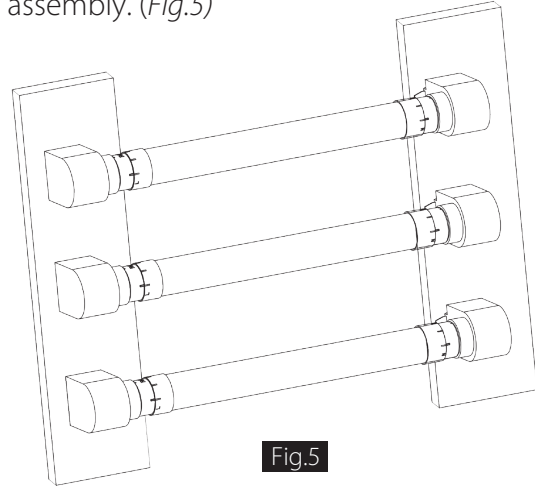

Fig.5
13. Reinstall diffuser (if applicable) to complete the assembly. (Fig.5)